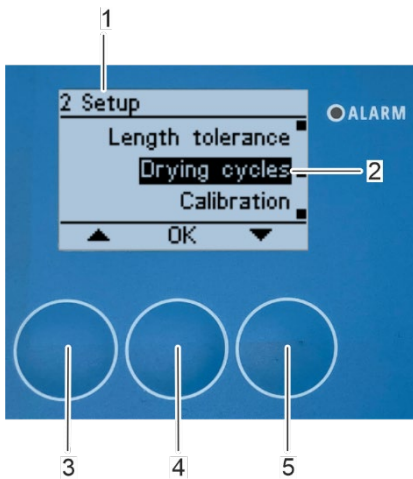

Fig. 135: Open submenu "drying cycles"
⇒ The "2 Setup" submenu appears on the display again (Fig. 135/1).
1. Select the "Drying cycles" submenu (Fig. 135//2) with the arrow keys [up] (Fig. 135//3) and [down] (Fig. 135//5) in submenu "2 Setup" (Fig. 135//1).
2. Confirm the selection with [OK] (Fig. 135//4).